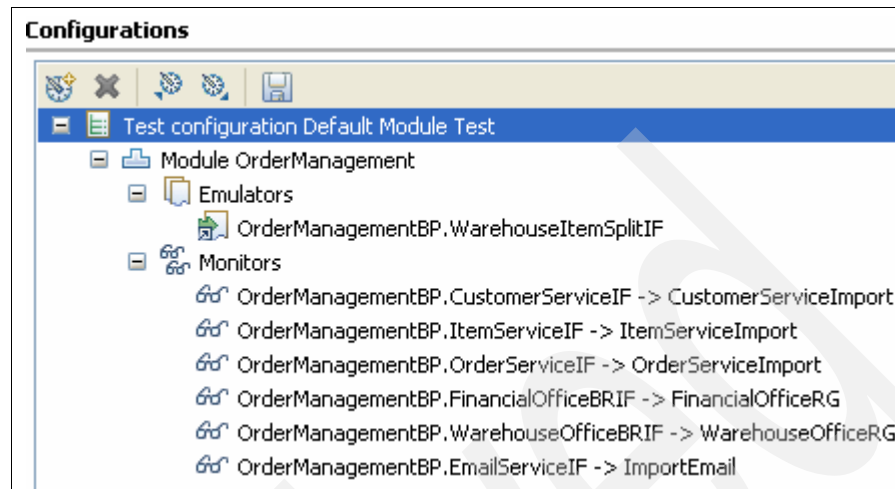

Figure 7-18 Test DBMSServiceMediation and OrderManagement emulation values
3. Verify that only the WarehouseItemSplit is emulated as shown in Figure 7-18.